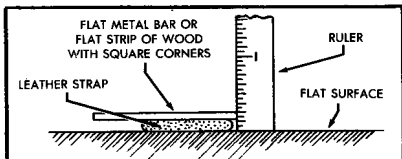

FIGURE 1. Method of Measuring Thickness of Leather
m. Leather worn thin. If none of the above conditions exist in the strap, it may be used until it is worn to a thickness of not less than 1/8 inch in any portion. Figure 1 indicates a method of measuring the thickness of leather.